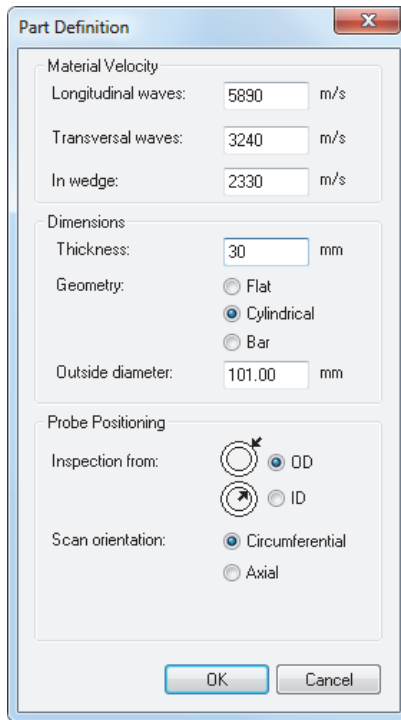

Figure 4-14 Part Definition dialog box
4. In the **Part Definition** dialog box (Figure 4-14 on page 111), proceed as follows: